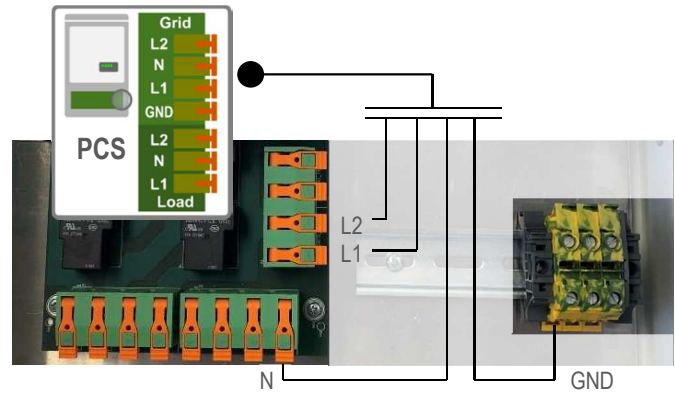

Figure 18: DURACELL HUB to PCS grid port connection.
Measure AC voltage at the load (backup panel connection) port. (L1-N, L2-N)	Figure 18
3. Measure voltages (L1-N, L2-N) at the Load terminals of the Hub (~120VAC).	Figure 18
5. Measure the voltages (L1-N, L2-N) at the Load terminals of the Hub (0 VAC).	Figure 18